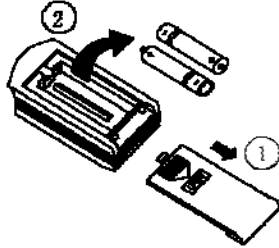

Fig. 4-2
1. Slightly press the mark  and push the back cover of remote controller towards the arrowheaded direction (as shown in Fig. 4-2).